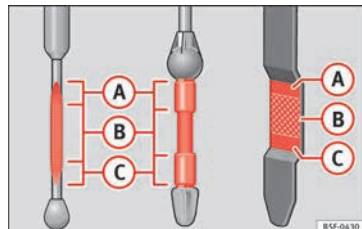

Fig. 207 Engine oil dipsticks. **»»**
» **Fig. 207.****Checking oil level**
- The oil level must never exceed area **A** » **Fig. 207**. Risk of damage to the exhaust system!